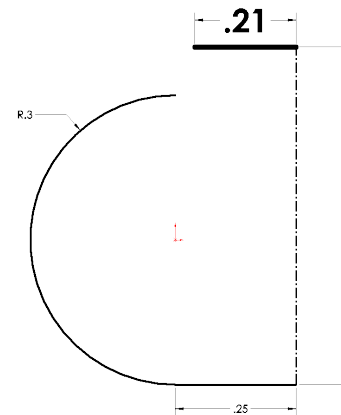

Fig. 5
- Step 1. Click **Line**  (L) on the Sketch toolbar.
- Step 2. Draw line from end of centerline across the top of sketch as shown in **Fig. 5**. Keep the line horizontal. As a guide use the inferencing line, the dotted line that appears when you draw.
- Step 3. Click **Smart Dimension**  (S) on the Sketch toolbar.
- Step 4. Dimension the line **.21** as shown in **Fig. 5**.